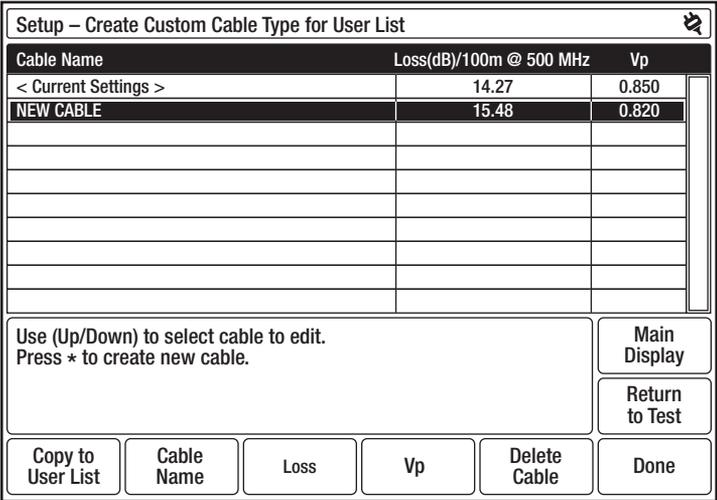

Figure 3-6: Setup – Create Custom Cable Type for User List
5. When finished, press **OK** to return to the previous display, which shows the new text on the highlighted line (Figure 3-6).